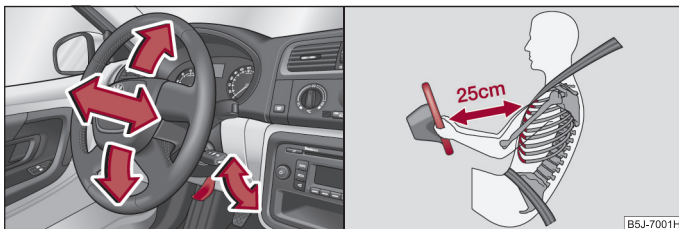

Fig. 93 Adjustable steering wheel: Lever below the steering column / Safe distance to steering wheel
- Pull the lever below the steering wheel down ⇒ fig. 93 - left ⇒ ⚠.
- The driver must maintain a distance of at least 25 cm to the steering wheel ⇒ fig. 93 - right. Not maintaining this minimum distance will mean that the airbag system will not be able to properly protect you - hazard!